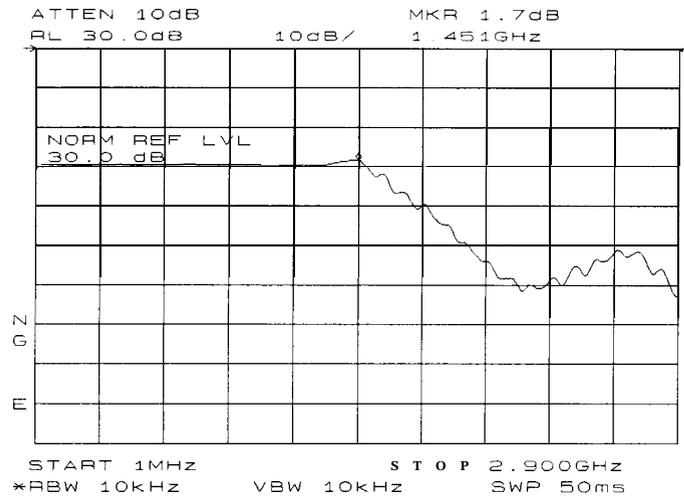

Figure 2-42. NORM REF LVL is a trace function.
By increasing **NORM REF LVL** to 30 dB, as shown in Figure 2-42, the trace moves down on the screen. Note that (1) the input attenuator value remains at 10 dB, (2) the marker-amplitude readout displays 13.2 dB, and (3) the **ERR 903 A>DLMT** error message is still displayed, even though the signal appears to be fully within the graticule.
Figure 2-42 shows that NORM REF LVL is a trace function that can position the active trace without changing analyzer settings. The ERR 903 A>DLMT error message is an indicator that the actual measured trace may fall outside of the analyzer measurement range with the current settings. Compression-free measurements are assured by adjusting RANGE LVL and changing the input attenuator and IF gain.